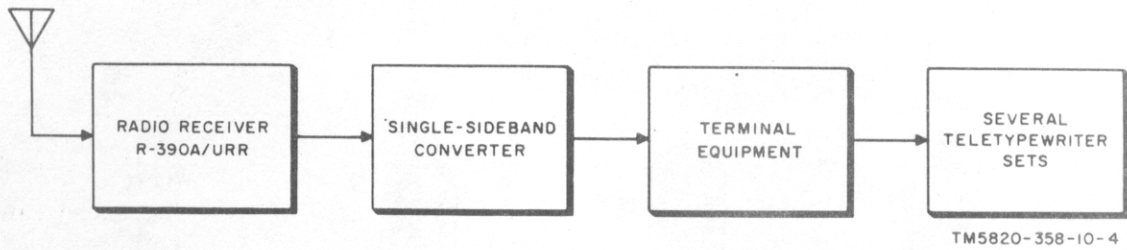

Figure 4. Single-sideband radio teletypewriter receiving system, block diagram.
c. Single-Sideband Radio Teletypewriter System. A receiver and a single sideband converter may be connected as shown in figure 4.